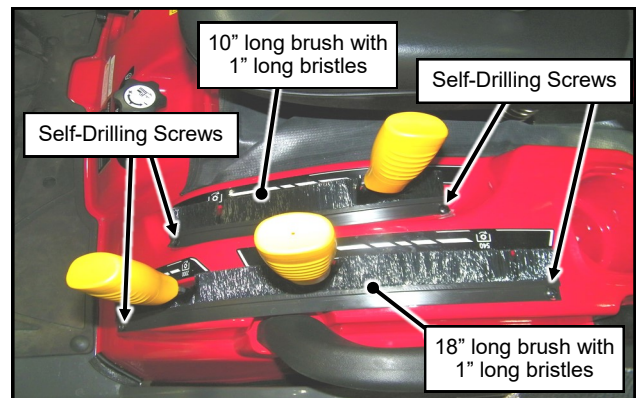

Fig. 3.1 (Attach Brushes to Left Fender)
- 3.1 Per fig. 3.1, adhere the 18" long brush (1" long bristles) to the outer side of the PTO levers, aligned to the label on the opposite side of the levers. Install one of the two 10" long brushes (1" long bristles) to the outer side of the PTO lever, aligned to the label on the opposite side of the lever.
- 3.2 Per fig. 3.1, install a self-drilling screw at each end of both sealing brushes into the tractor fender. Place the screws centered on the plastic brush holder, 1/4" to 1/2" from the end of the brush.